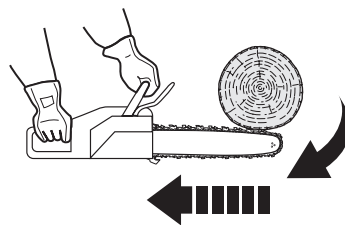

Fig. 34
2. Pinching of the saw chain (10) along the top of the guide bar (11) may push the guide bar rapidly back toward the operator (Fig. 34).